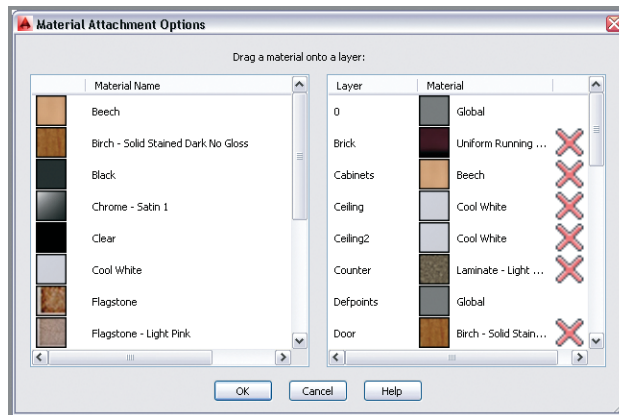

FIGURE 18.4 Assigning materials to layers by dragging from the left pane to the right pane in the Material Attachment Options dialog box
- Expand the Materials panel, and select the Attach By Layer tool. Click the Layer header to sort the list of layers in reverse alphabetical order. Click the Layer header again to sort in alphabetical order. Drag materials from the left side, and drop them on the right side according to Table 18.2. Figure 18.4 shows the dialog box with all the necessary materials selected. Click OK to close the Material Attachment Options dialog box.